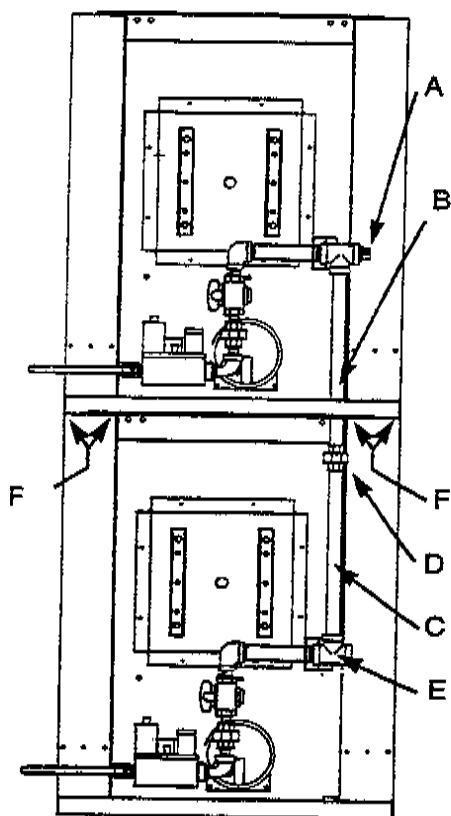

FIGURE 12
9. Connect the top and bottom gas connections as shown. Remove the plug from the tee in the top oven, and reinstall as shown in Figure 12 (Item A).
12. Connect the items B, C and D as shown in Figure 12.
14. The gas for both ovens can now be connected (Item E) as shown in Figure 12.